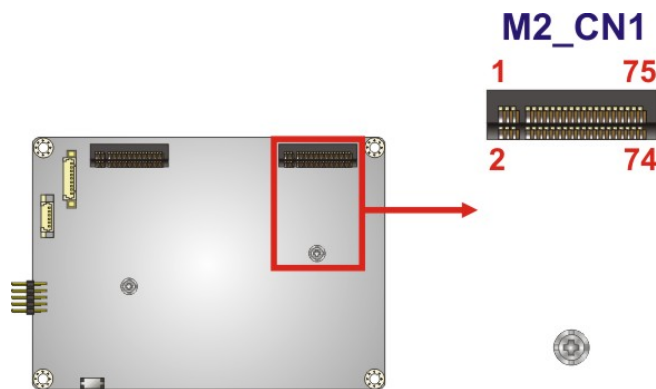

Figure 3-11: M.2 A-key Slot Location
- CN Location:** See **Figure 3-11**